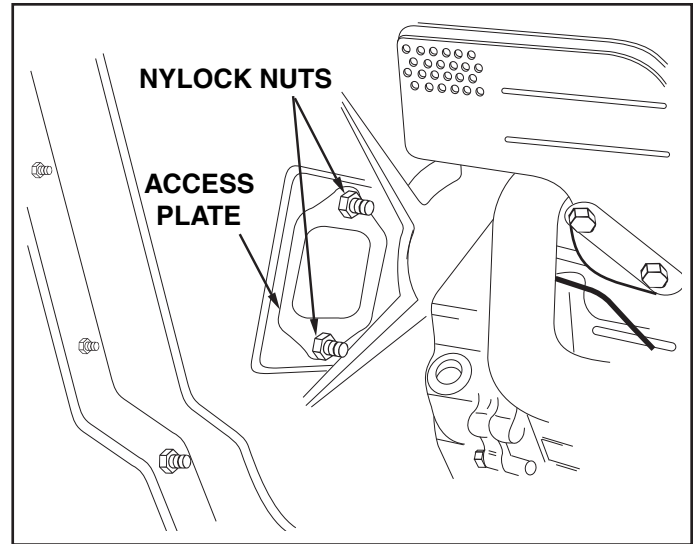

FIGURE 30
- Remove the access plate by removing two hex lock nuts. See figure 30.